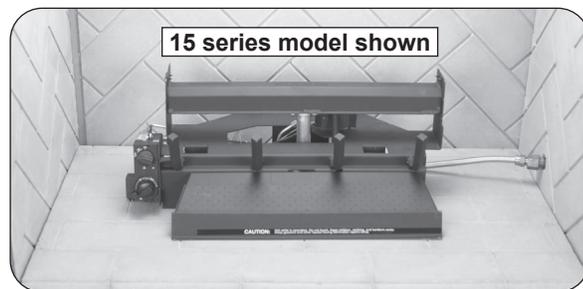

Fig. 15-2 Center burner in fireplace
3. Place the burner system in the fireplace. Center the burner from left to right. Make certain that no part of the burner assembly protrudes (forward) beyond the face of the fireplace. **DO NOT PUSH ALL THE WAY BACK.** See Fig. 15-2.